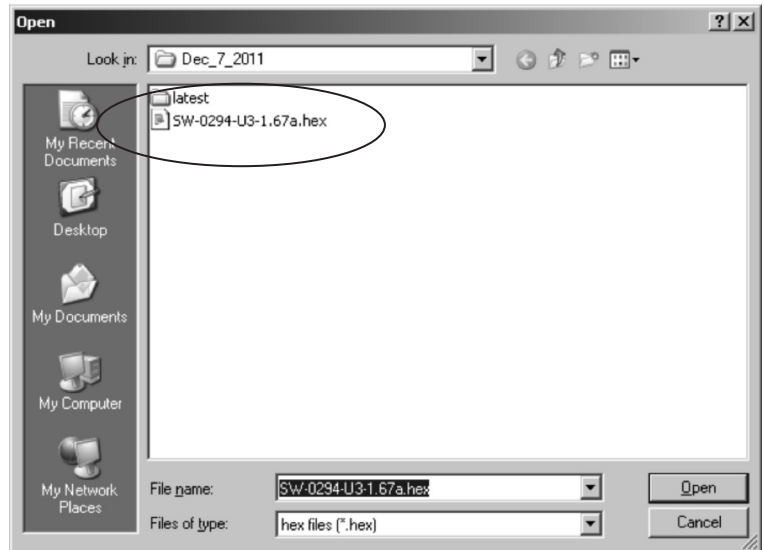

Figure 12.4 - Select the .hex file
- From the Open screen, select the appropriate firmware upgrade file ending in ".hex," which in this example is "SW-0294-U3-1.67a.hex." Refer to Figure 12.4.